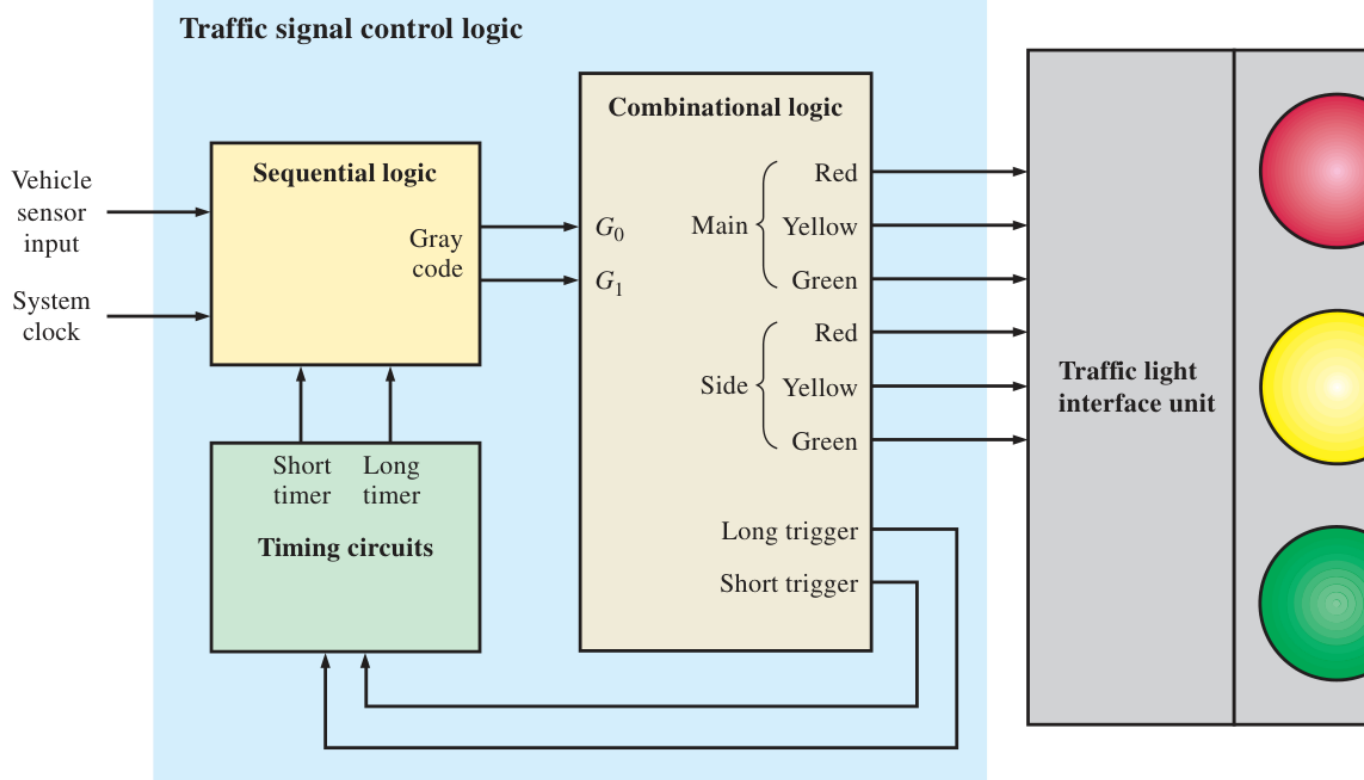

FIGURE 3 Block diagram of the traffic signal control system.
2. System Architecture & Block Diagram (Floyd, p. 324, Figure 3)
Figure 3 from Floyd reveals the complete three-part system decomposition: